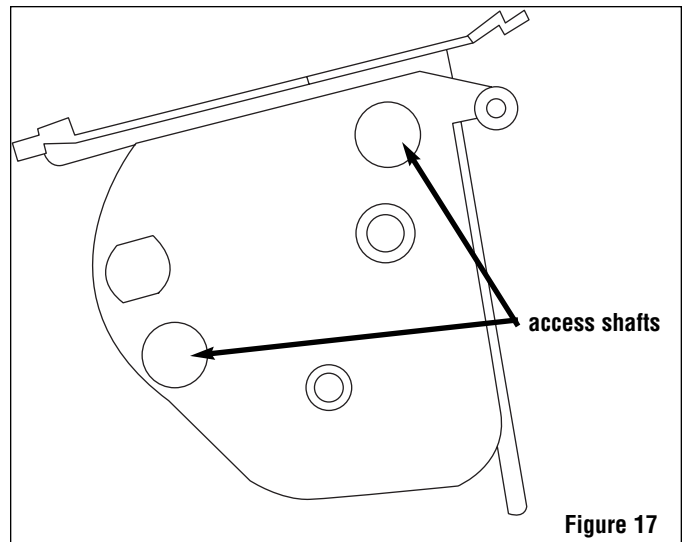

Figure 17
- a. Locate the access shafts to the heat welds on the contact end of the cartridge body. See Figure 17.